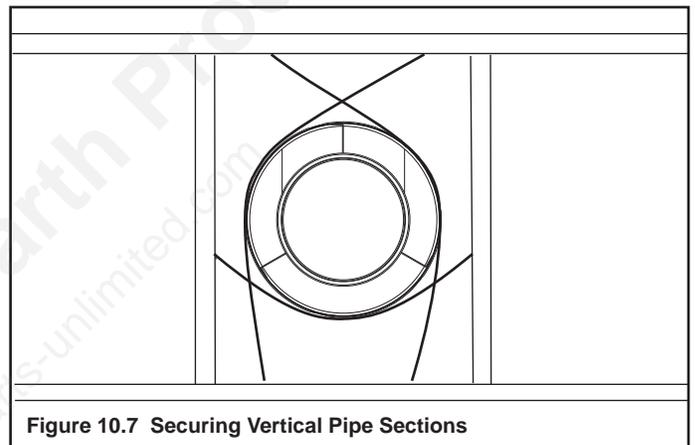

Figure 10.7 Securing Vertical Pipe Sections
- Vent support or plumber’s strap (spaced 120° apart) may be used for support. See Figures 10.7 and 10.8.